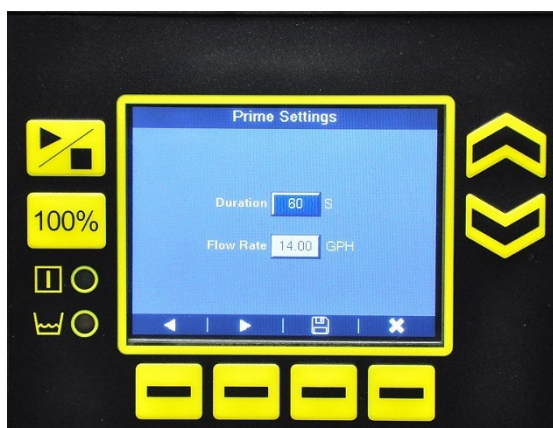

Figure 26: Prime Settings
1. From the *Settings* screen, select **Prime Settings** (Figure 26).